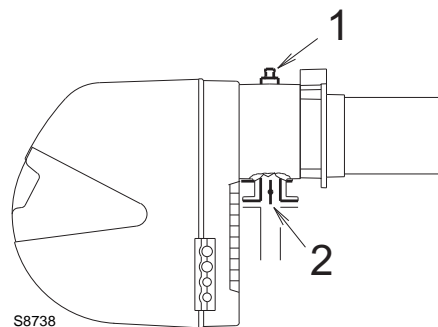

Fig. 25
Gas pressure measured at the test point 1)(Fig. 25), with:
Pressure loss at gas butterfly valve 2)(Fig. 25) with maximum opening: 90°.
- Subtract the combustion chamber pressure from the gas pressure measured at test point 1)(Fig. 25).
To know the required gas pressure at test point 1)(Fig. 25), set the maximum output required from the burner operation, then:
- Read, on the right (column 1) the socket pressure 1)(Fig. 25).
gas pressure at test point 1)(Fig. 25).